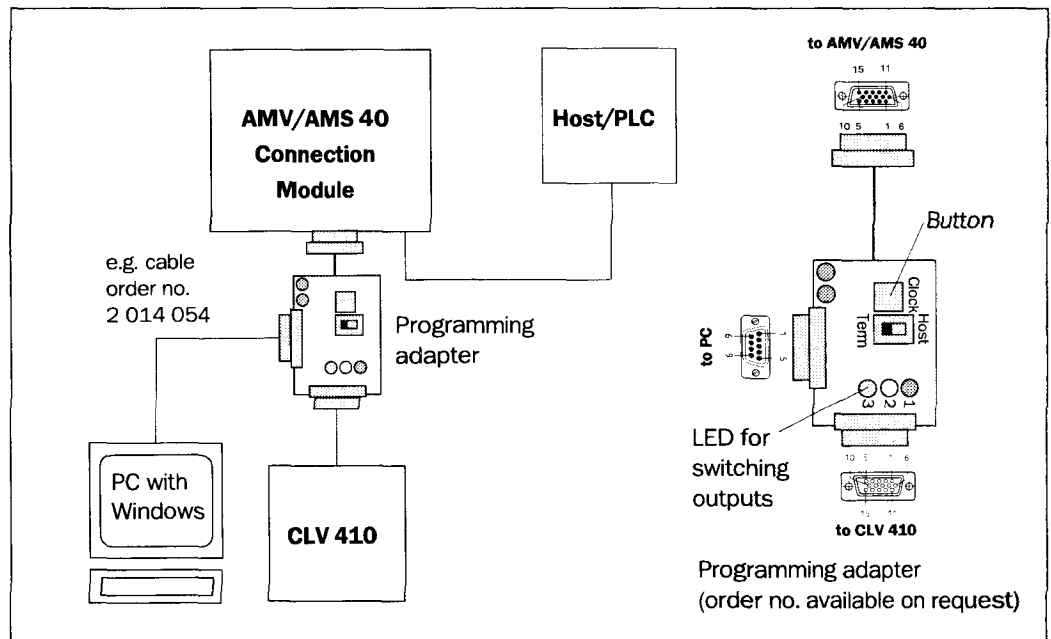

Fig. 3. Connecting the PC to the optional programming adapter
- ▶ Disconnect the CLV connector from the Connection Module (Fig. 3).